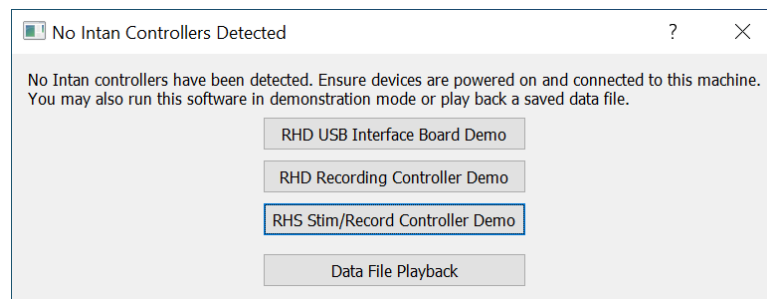

Fig. 18: Pop-up window if no controller is connected.
- If no connected controller, select "RHS Stim/Record Controller Demo" (**Fig. 18**).